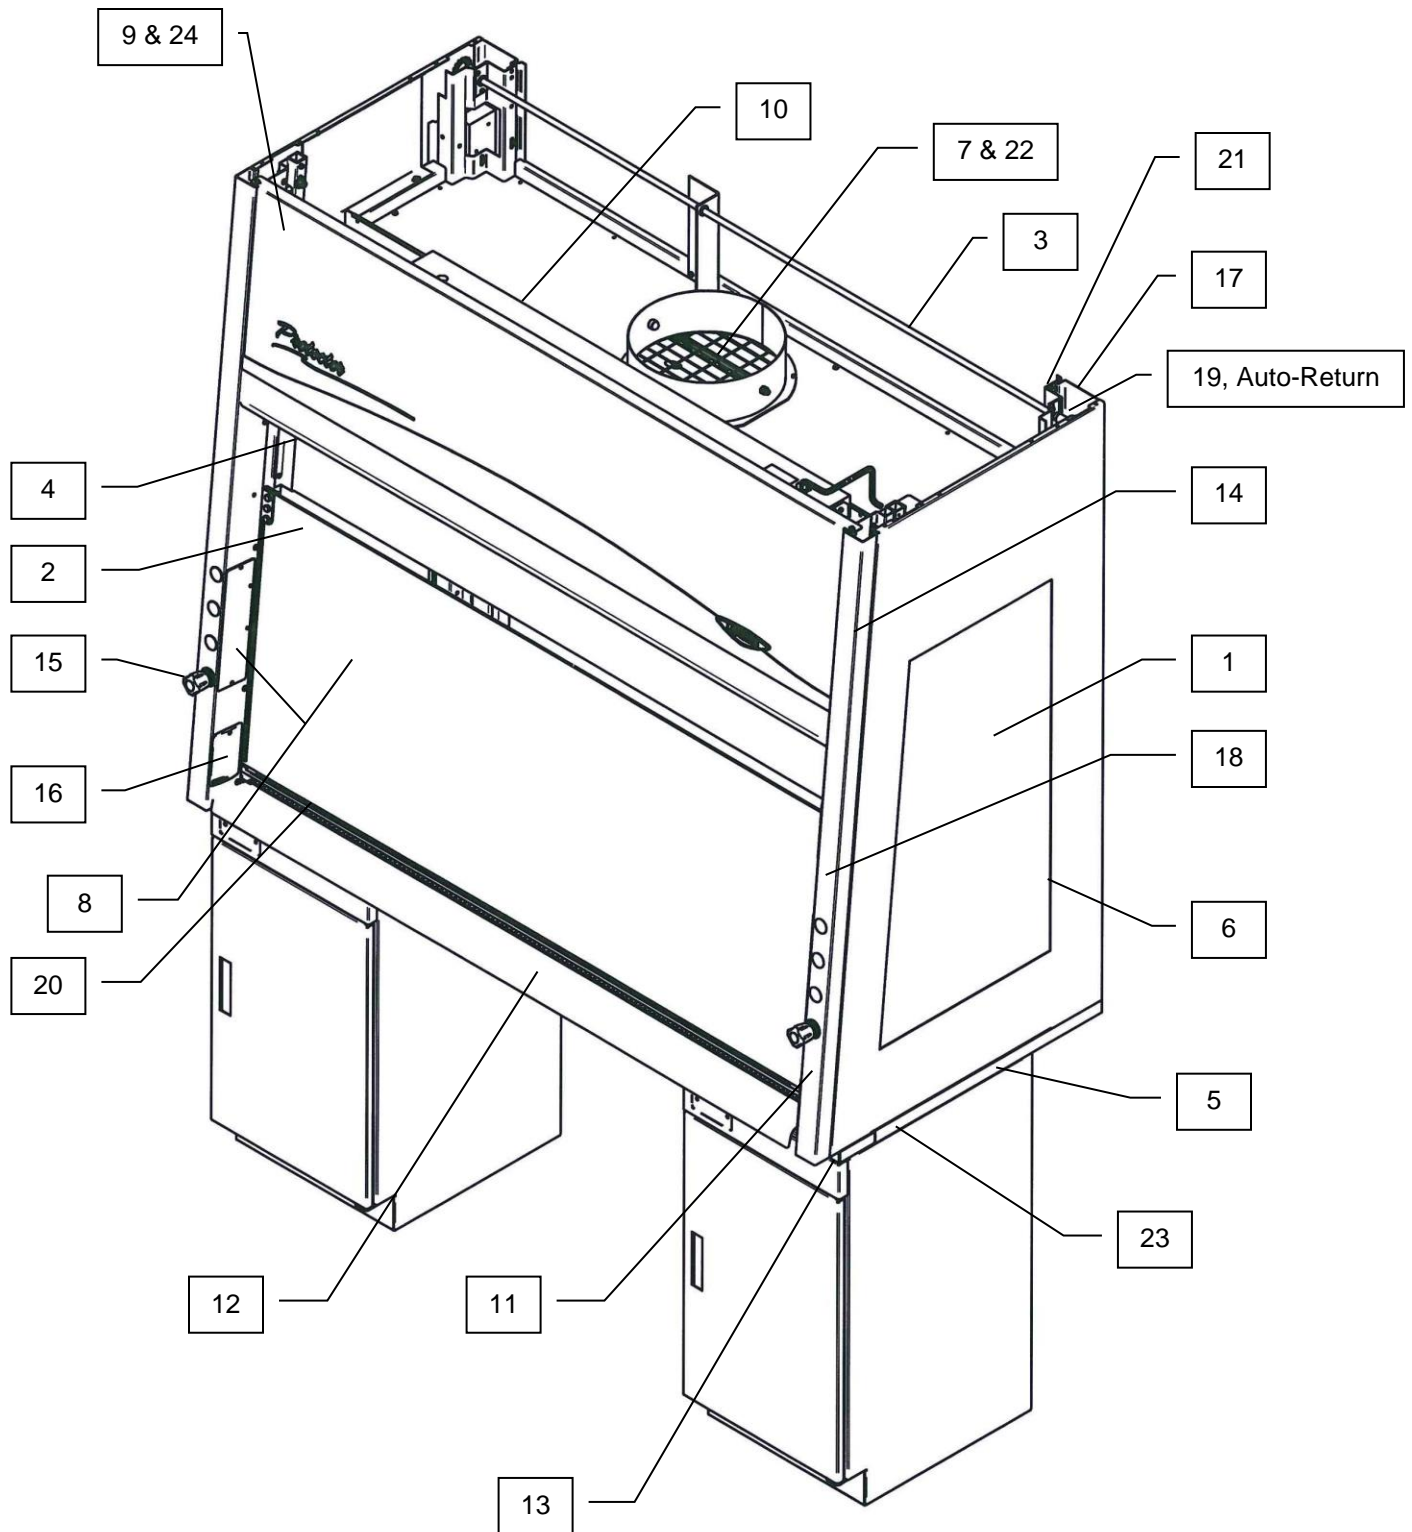

Figure 4-1
The major components in Protector ClassMate Laboratory Hoods are outlined as follows and in Figure 4-1, and Figure 4-1A:
19. **Optional Sash Models.** See Figure 4-1, cover, and Chapter 2. Sashes are offered in smooth anti-racking chain, auto-return, or combination vertical rising and horizontal sliding.